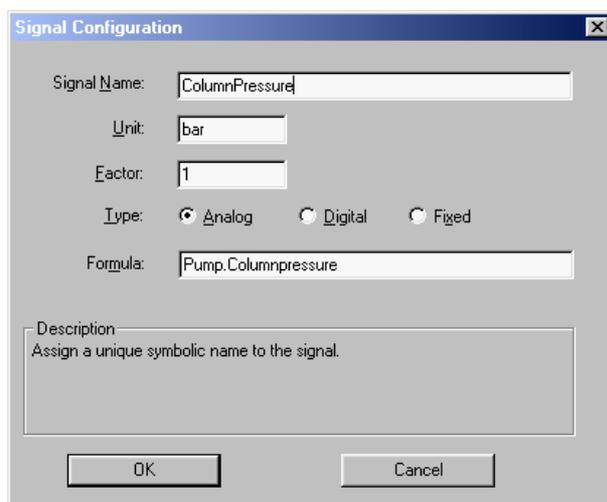

FIGURE 2-26 Virtual Channel Setup for Column Pressure Readout
- b) Check the first channel and click on **Change** to configure it. To readout the column pressure, configure the *Signal Configuration Box* as indicated in FIGURE 2-26.